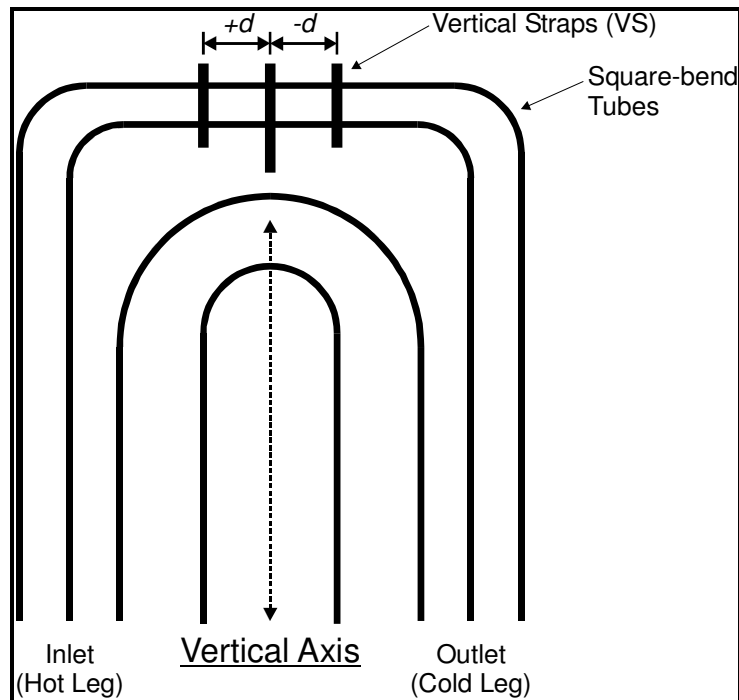

Figure 32. Determining Location Values for Vertical Straps in a Landmark Table
Vertical straps toward the inlet (hot) leg are positive values while those toward the outlet (hot) leg are negative values. See Figure 32 for clarification.
- ❑ **First Square Ubend:** Enter the first row where the tubes change from normal U-bends to square-bends. Figure 32 points out the concept of square-bend tubes. If these types of tubes do not exist in the component, set this field to a large number, i.e., 999 (*default*). In addition, if **Has Ubends** on the **Parameters** tab is disabled, this field will be ignored.